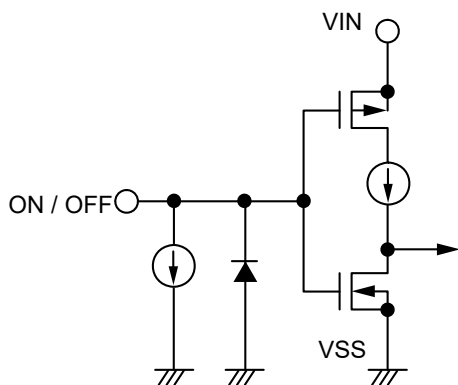

Figure 14 S-1318 Series A / C type
Note that the current consumption increases when a voltage of 0.25 V to $V_{IN} - 0.3$ V is applied to the ON / OFF pin. The ON / OFF pin is configured as shown in **Figure 14** and **Figure 15**.
*2. Note that the IC's current consumption increases as much as current flows into the constant current of 0.1 μ A typ. when the ON / OFF pin is connected to the VIN pin and the S-1318 Series A / C type is operating (refer to **Figure 14**).